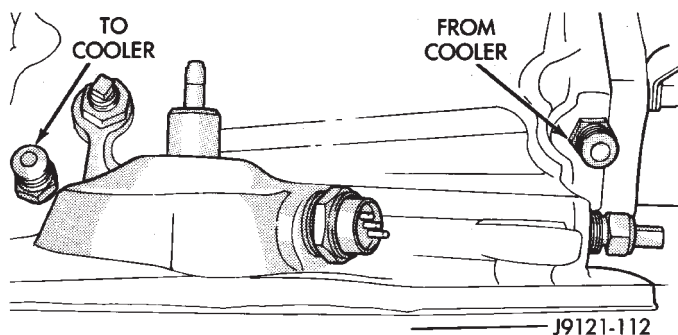

Fig. 7 Transmission Cooler Line Location And Identification
(11) Connect transmission cooler lines to fittings. Refer to Figure 7 for cooler line identification.